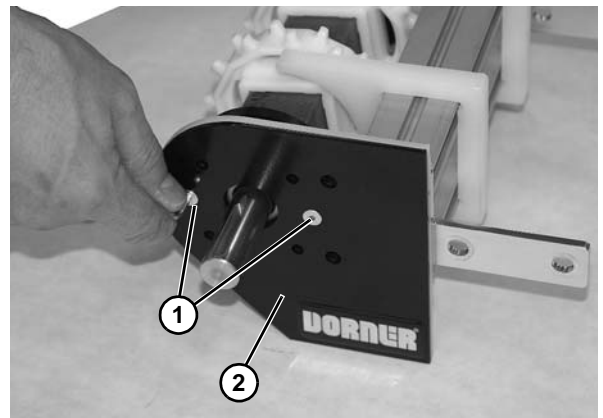

Figure 49
4. Remove the two flat head screws (Figure 49, item 1) from cover (Figure 49, item 2).